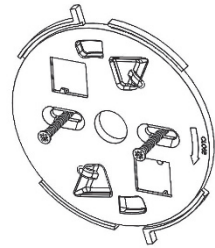

Figure 7
3. Using the mounting holes as a template, secure the mounting bracket to the mounting surface (see Figure 7).